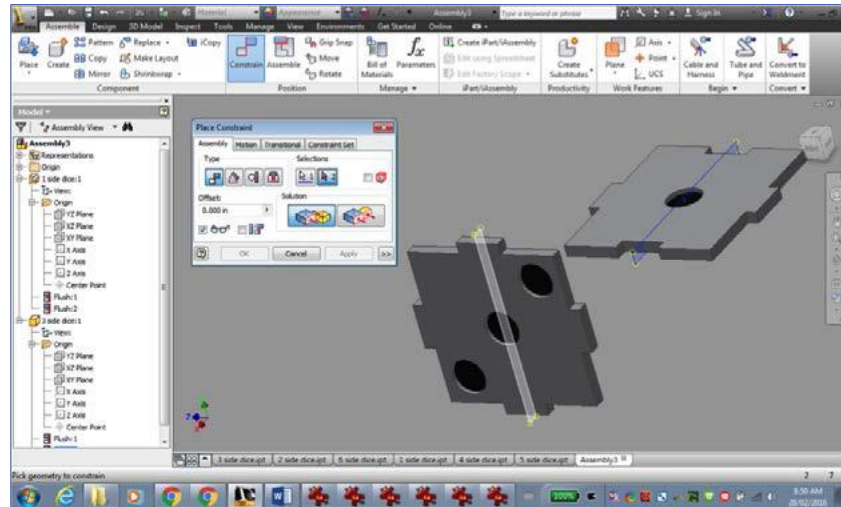

Figure 22
- To ensure the two parts are aligned “Centred,” this time you are going to align them to their planes. In the Browser, expand the parts to show their planes under “Origin.” Picking the planes will highlight them (Figure 22).